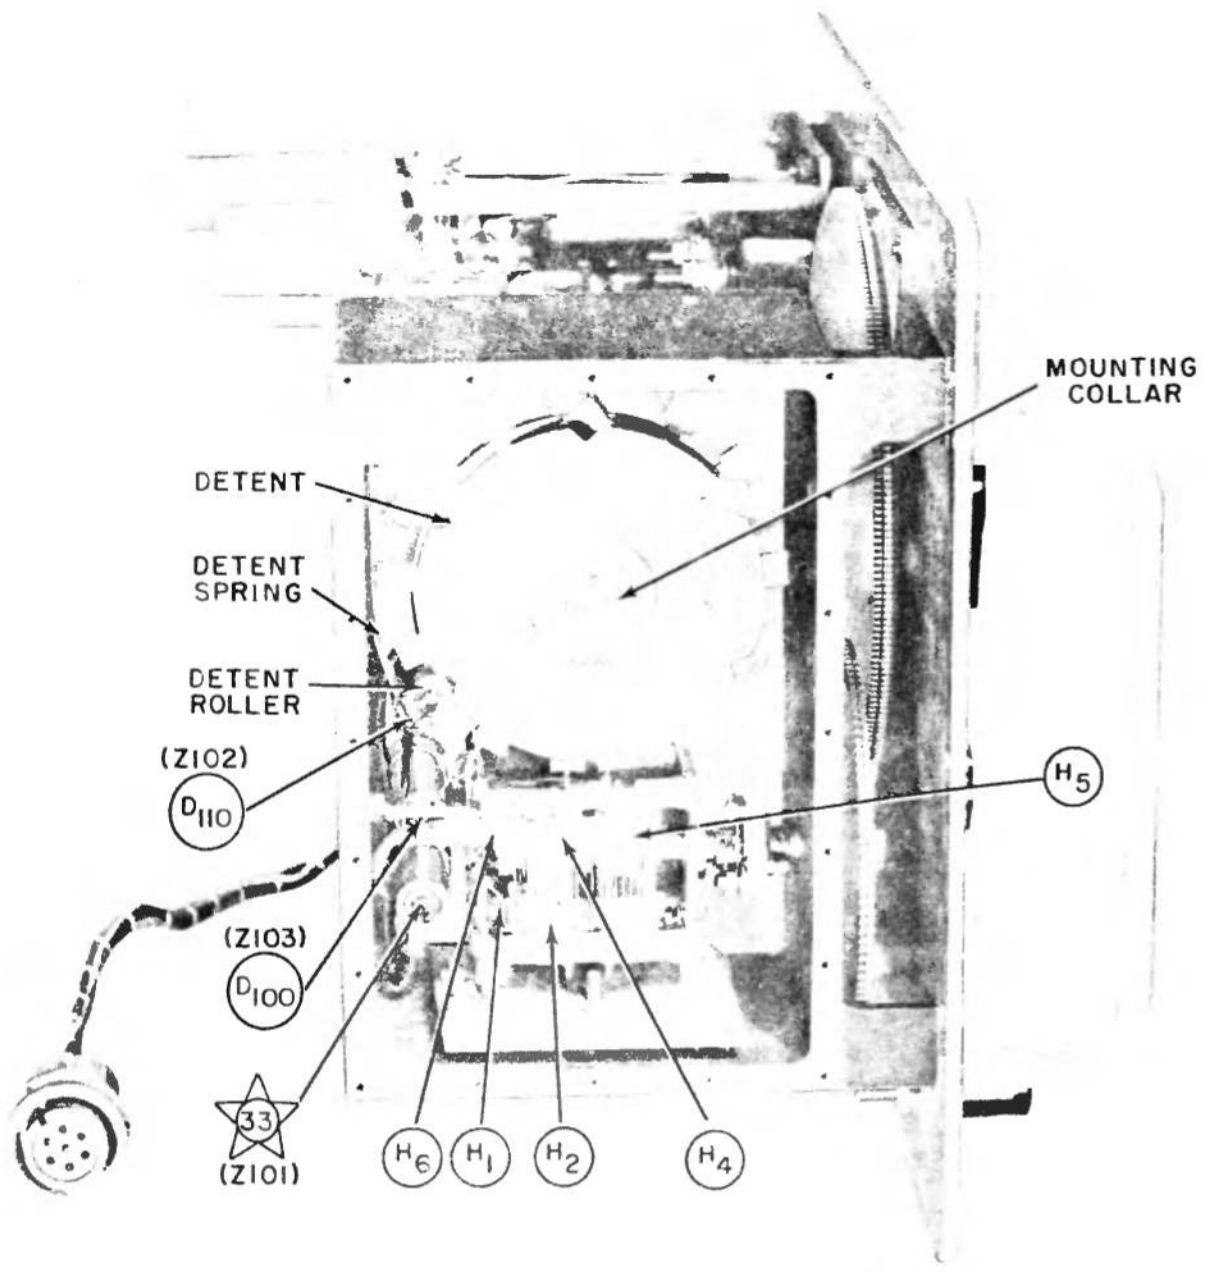
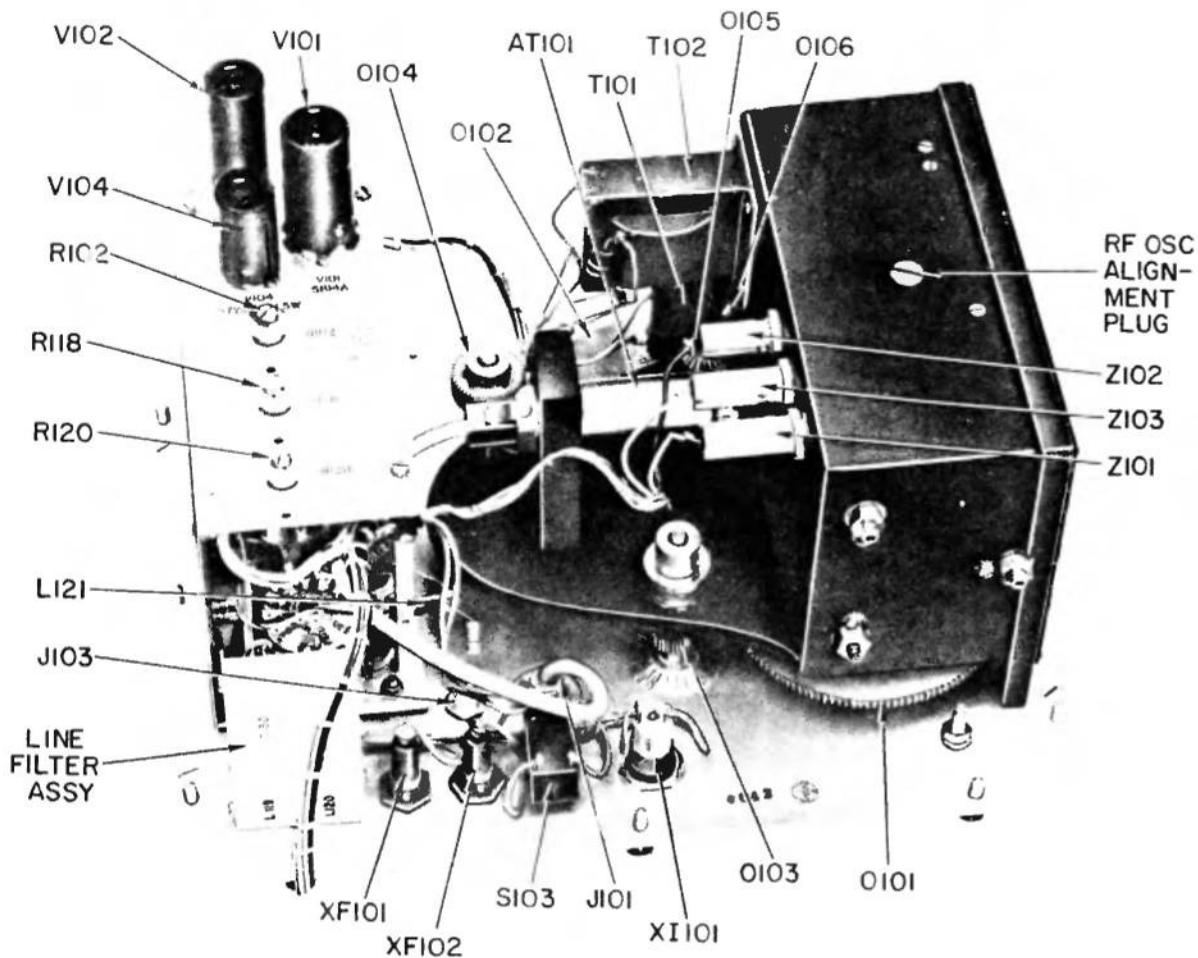
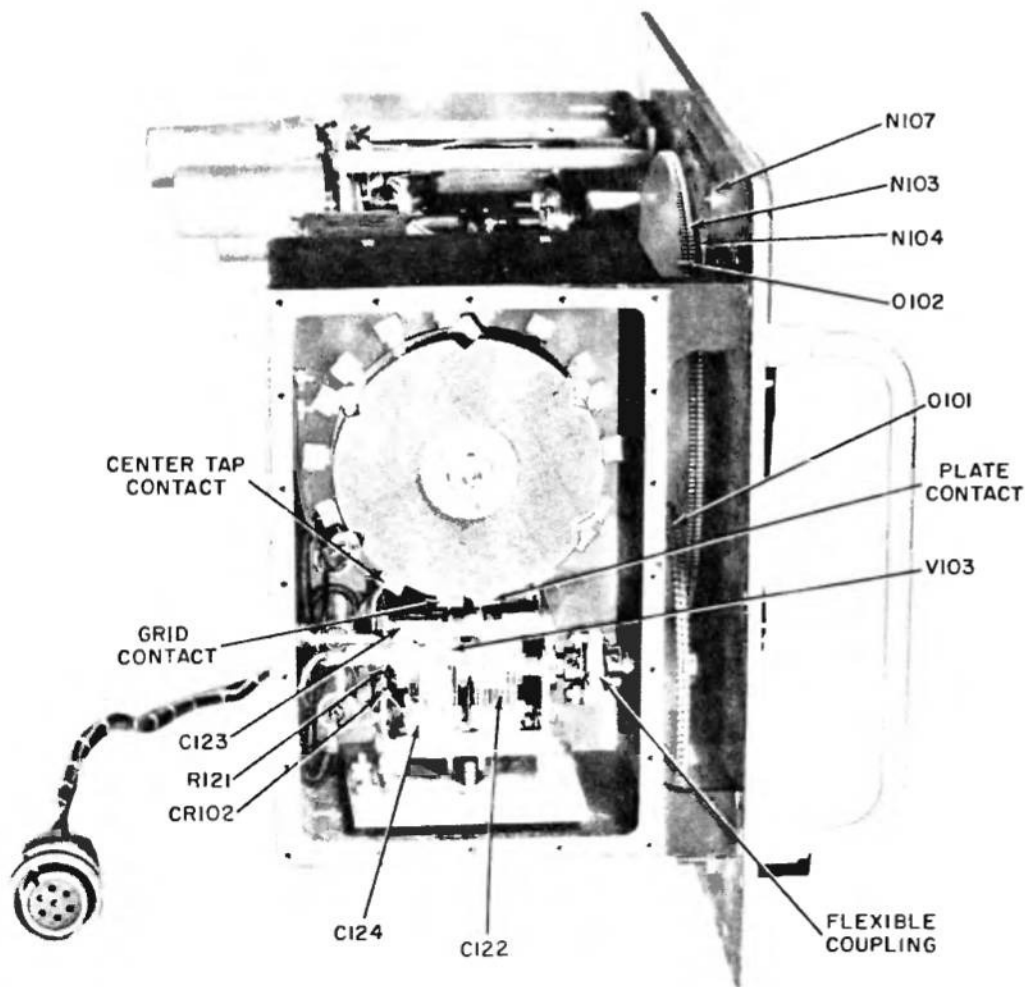

Figure 5-6. RF Oscillator Stage Showing Test Points.
Figure 6-3. Rear View of Signal Generator SG-117/URM-26B.
Figure 6-5. RF Oscillator and Variable Capacitor Subassembly.
e. RF OSCILLATOR. – Expose the rf oscillator stage (see paragraph 6-5) so that the test points are exposed as in figure 5-6. Figure 5-7 shows the metering crystal pickup mount. Figure 4-2 shows the simplified schematic diagram for this stage. Using Table 5-8 as guide, follow the steps in order, connecting the appropriate test instruments to the proper test points. Take the preliminary action indicated in the third column of the table, then see the normal indication in the next column. The last column directs you to the next step.
Whenever it is necessary to calibrate the signal generator or to replace any rf components, it will be necessary to expose the rf section. These instructions are meant to be used only when indications are clear that the rf oscillator section must be opened. Do not casually open this critical unit for routine servicing. Where necessary, carefully follow this procedure for disassembling the rf oscillator section. (See figures 5-6 and 5-7, figures 6-3 through 6-7.)
b. REMOVING RF OSCILLATOR TUBE V103. (See figure 5-6.)
– Unsolder black tube filament lead from ground point of capacitor. Unsolder ground strap from capacitor to case. Unsolder white and blue wire (oscillator B+). Remove the three tuning capacitor mounting screws (6 x 32) with washers (See figure 6-3.) holding tuning capacitor to casting. (Avoid disturbing the adjustment of the three stand-off adjustment-alignment 1/4" studs.) Work the tuning capacitor out gently with the fingers. (It may be of aid to vary the TUNING dial to a point more favorable for removal of the tuning capacitors; see figure 6-5.)
– Unsolder cable from Z102 (Test point D110, figure 5-6.). With No.6 Allen wrench, loosen pickup mount set screws. It is necessary to lower the attenuator cylinder slightly. This is done by unscrewing cylinder retaining screw slightly (see figure 6-3) and
The technician is cautioned against unnecessary removal of this unit. Only if R130 or L118 or a mechanical component requires replacement should the attenuator be removed. If removed and replaced, it is necessary to follow with recalibration procedures (see paragraph 6-11). To remove rf attenuator first remove the metering crystal pickup mount (see paragraph 6-5f). Then unscrew cylinder retaining screw (see figure 6-3). This frees the cylinder, which can be drawn out through the rf compartment side. Remove the output cable by unscrewing the hex retaining collar which attaches the rf output cable to the front panel.
6-8. REMOVING LOW-PASS FILTER SUBASSEMBLY.(See figures 6-3 and 5-6.)
Unsolder the wires connected to the filter subassembly if it is desired to remove. The outside connector is shown in figure 6-3. The inside connector is shown in figure 5-6. If the rf oscillator cavity is not open, it is necessary to expose it as described in paragraph 6-5a. With soldered leads freed, the filter subassembly is removed as a complete cylinder by unscrewing it from the outside back of the oscillator cavity.
6-10. RECALIBRATING RF OSCILLATOR (See Table 6-2, figures 6-3, 6-4 and 6-9.)
Connect the RF OUTPUT of the signal generator to the impedance match. Connect the output of the impedance match to the input of the frequency counter. Unscrew the oscillator alignment plug (see figure 6-3) from the case of the oscillator coil section, exposing the slug of the coil in use. Replace rf oscillator cover plate with jig plate with hole exposing trimmer of the coil in use. Plug in the ac cord of the signal generator. Turn on the signal generator and the frequency counter.
Only designated calibration laboratories should re-calibrate RF OUTPUT (adjust variable attenuator) except in an emergency. If such resetting of the microvolts output is deemed necessary, precautions should be noted to prevent damage to coils L-117 and L-118: Remove cover from RF Oscillator and Variable Capacitor Subassembly (see figure 6-5). Damage to coils L-117 and L-118 will result if they are permitted to touch each other with force. Throughout any adjustment visually note these parts and prevent any possibility of their touching while the RF output (variable attenuator) is gently moved throughout its range.
(1) Set up the signal generator for CW operation at 5 mc (see paragraph 3-4).
(2) Connect Impedance Matching Network CU-439/URM-26B to RF OUTPUT jack on front panel, through the short RF Cord.
(3) Connect the other end of the network to the ac input of Multimeter AN/USM-34 (through appropriate probe adapter).
(4) Test RF OUTPUT dial by turning it completely counter-clockwise. It should read 100K at the stop. If it does not, loosen the two set screws in the dial hub (located below attenuator driving gear, figure 6-3) and reset the dial so it reads 100K at the stop.
(5) Turn on the signal generator and the multimeter (if not already turned on).
(6) Adjust CARRIER LEVEL control so meter reads at SET CARRIER red line.